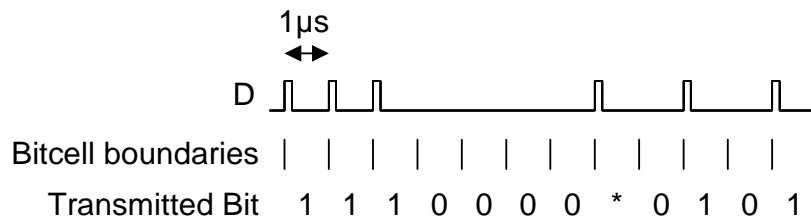

Figure 3.1
3. In a binary data transmission scheme, each transmitted bit occupies a bitcell having a duration of  $1 \mu\text{s}$ . For a logical 0, the transmitted signal is low throughout the bitcell whereas for a logical 1, a short pulse is transmitted at the start of the bitcell. In order to prevent long intervals without any transmitted pulses, the transmitter inserts an additional bitcell containing a pulse whenever four consecutive zero bits have been transmitted. *Figure 3.1* illustrates the transmission of the bit sequence 1110000101 in which the inserted bitcell is marked with \*. The frequency of *CLOCK* is 8 MHz.
Draw a timing diagram showing the data sequence of *Figure 3.1* and the resultant waveforms of *D*, *V*, *W*, *X* and *Y*. On your diagram, show the decimal value of *Q5:0* during each output pulse on *X* or *Y*. Do not attempt to show the waveform of *CLOCK* on your diagram. [10]